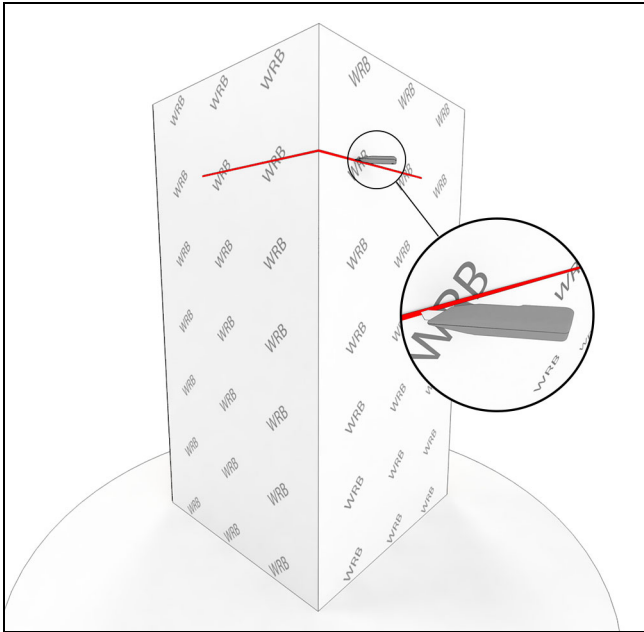

Figure 2
3. Apply air barrier. Trim the air barrier across the entire top of the head jamb. See Figure 2.